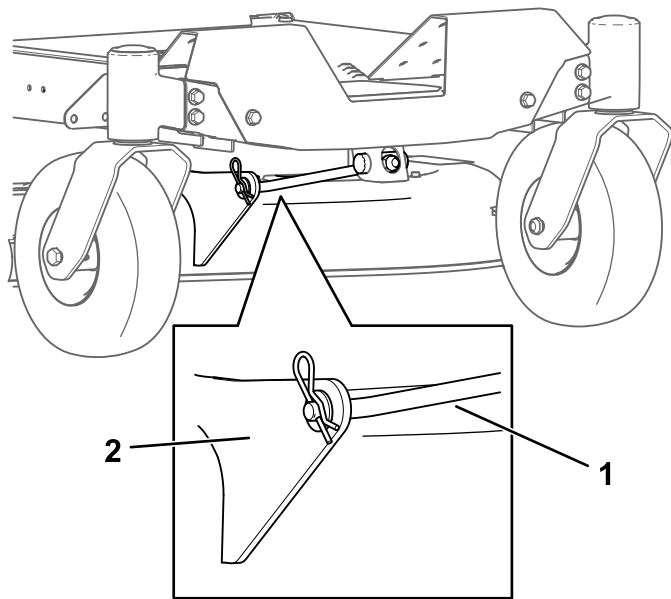

Figure 73
- Remove the hairpin cotter from the front support rod, and remove the rod from the deck bracket (Figure 73).
- Attach the front support rod to the mower deck with the clevis pin and hairpin cotter (Figure 73).